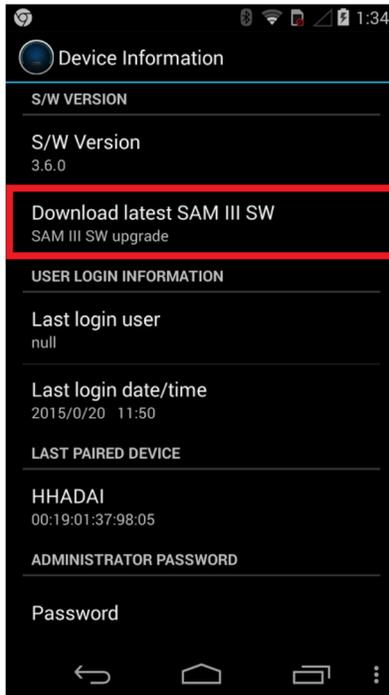

Figure 4.37. PeakAbout software upgrade, step 1
1. Open the Setup menu, scroll down to the bottom and select **Device Information**, then select **Download Latest SAM III SW** (Figure 4.37). A pop-up window will appear.